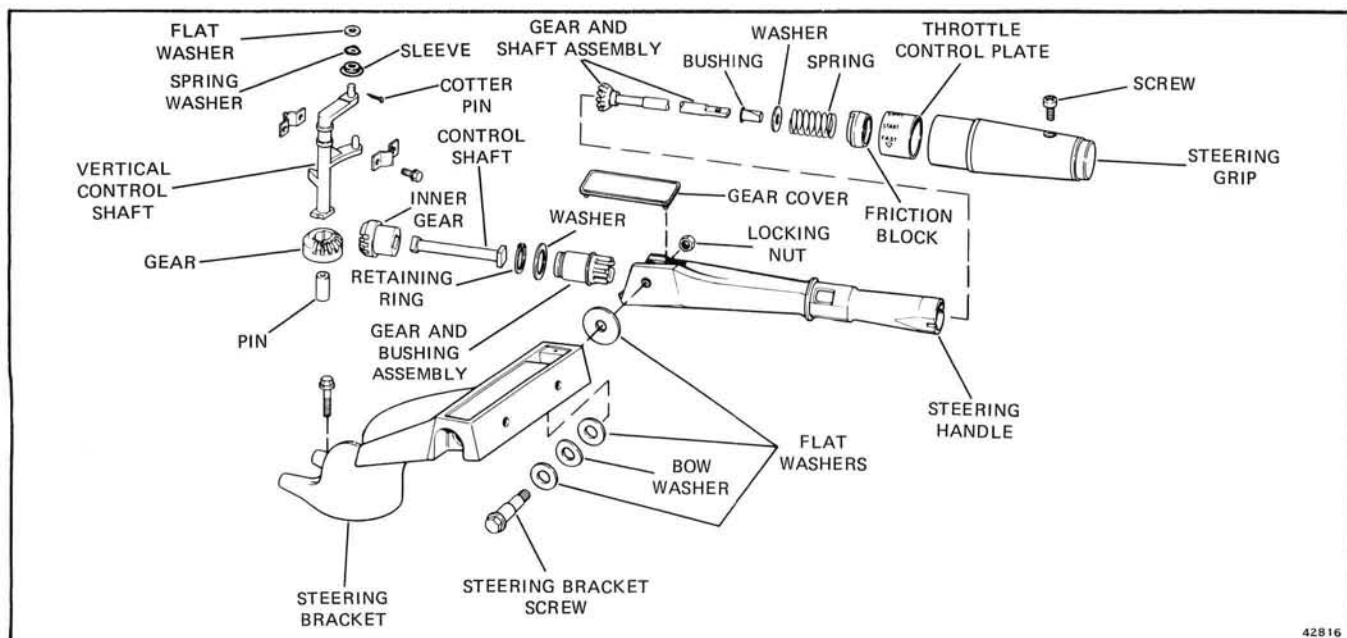
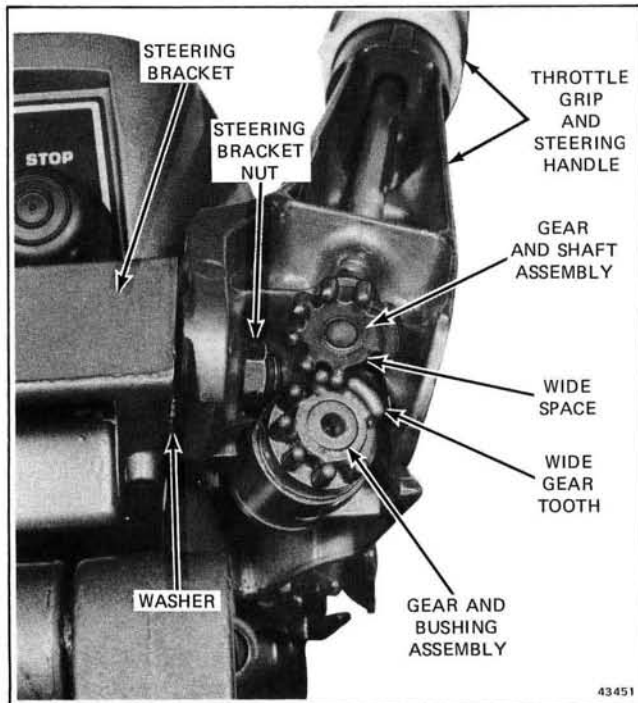

Figure 6-18. Steering and Throttle Components
Figure 6-19. Throttle Shaft Gear Mesh
Remove gear cover by prying four corners out of steering bracket and handle. See Figure 6-18. Loosen steering bracket nut. See Figure 6-19. Remove steering bracket screw, flat washer and bow washer, while holding nut. See Figures 6-18 and 6-19. Screw is threaded into handle. Carefully remove screw and washer from handle and steering bracket. See Figures 6-18 and 6-19.
2. Tilt handle and pull out gear and shaft, and bushing. See Figure 6-18.
2. To attach steering handle to steering bracket, the gears have mating teeth. See Figure 6-19. These must be aligned.